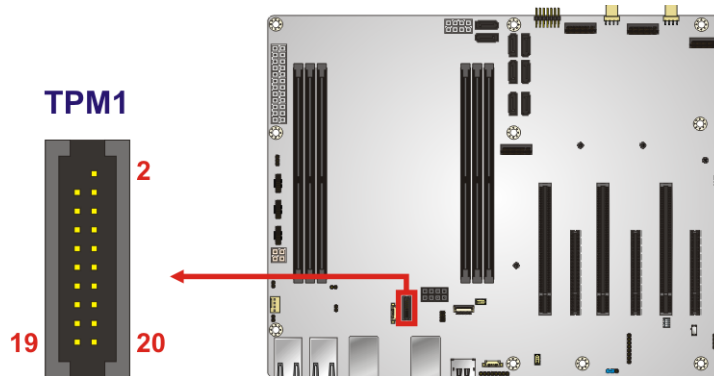

Figure 3-25: TPM Connector Pinout Location
- CN Location:** See **Figure 3-25**